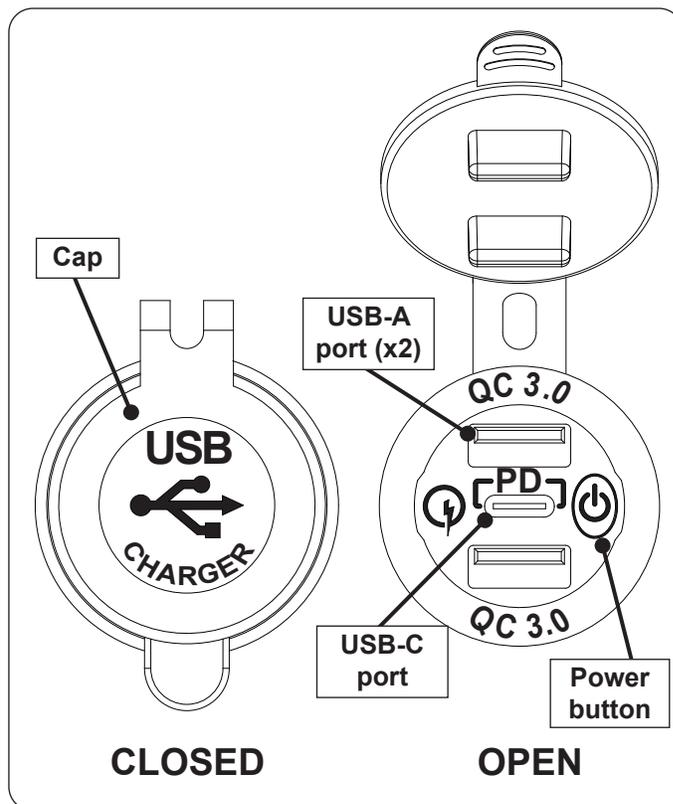

Fig. 49-1 USB outlet overview
Fyrestarter (H) models are equipped with a USB outlet for charging electronic devices. To use, see Fig. 49-1 and follow the steps below.
1. Locate the control panel on the side of the unit (refer to the IDENTIFICATION PARTS LIST if needed), and identify the USB outlet (see Fig. 49-1).